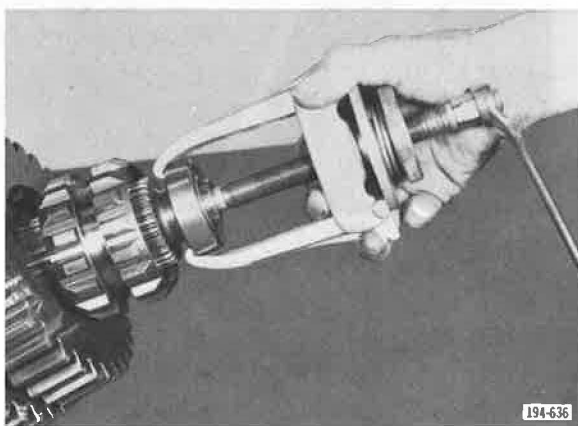

Figure 117. Removing Bearing
2. Remove mainshaft front spigot bearing, using puller CG-250, or equivalent. See Figure 117.